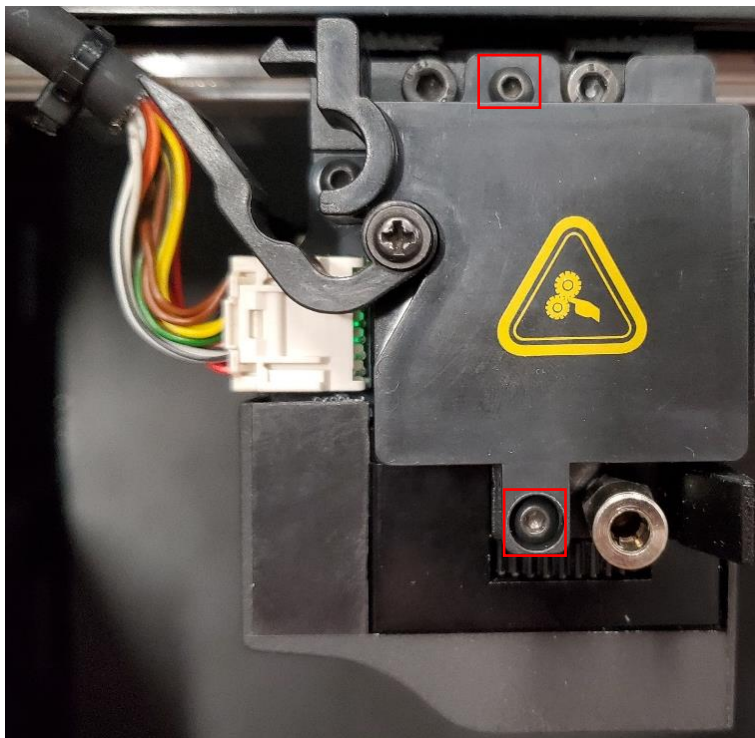
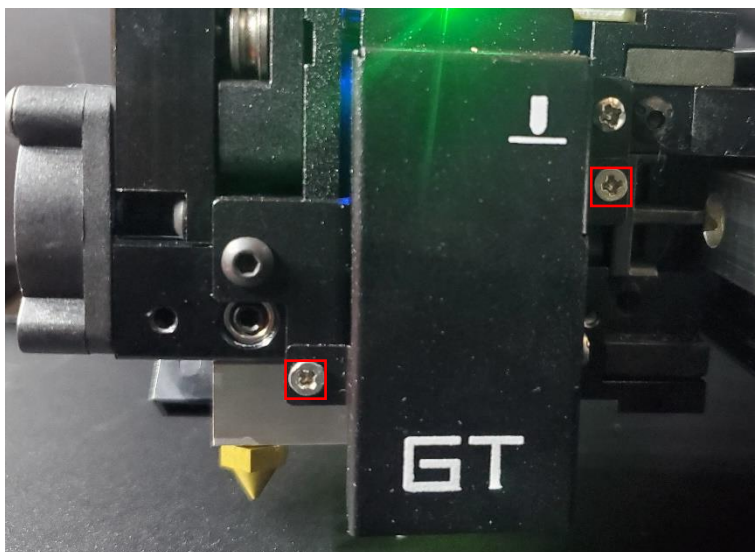

Figure 5: Remove the fixing screws (shown in the red boxes) of the extruder controller board.
Figure 6: Remove the screws (shown in the red boxes) of the auto-leveling assembly cover.
- 2) Remove the fixing screws of the left extruder controller board cover (refer to **Figure 5**). Then remove the fixing screws of the auto-leveling assembly cover (refer to **Figure 6**).